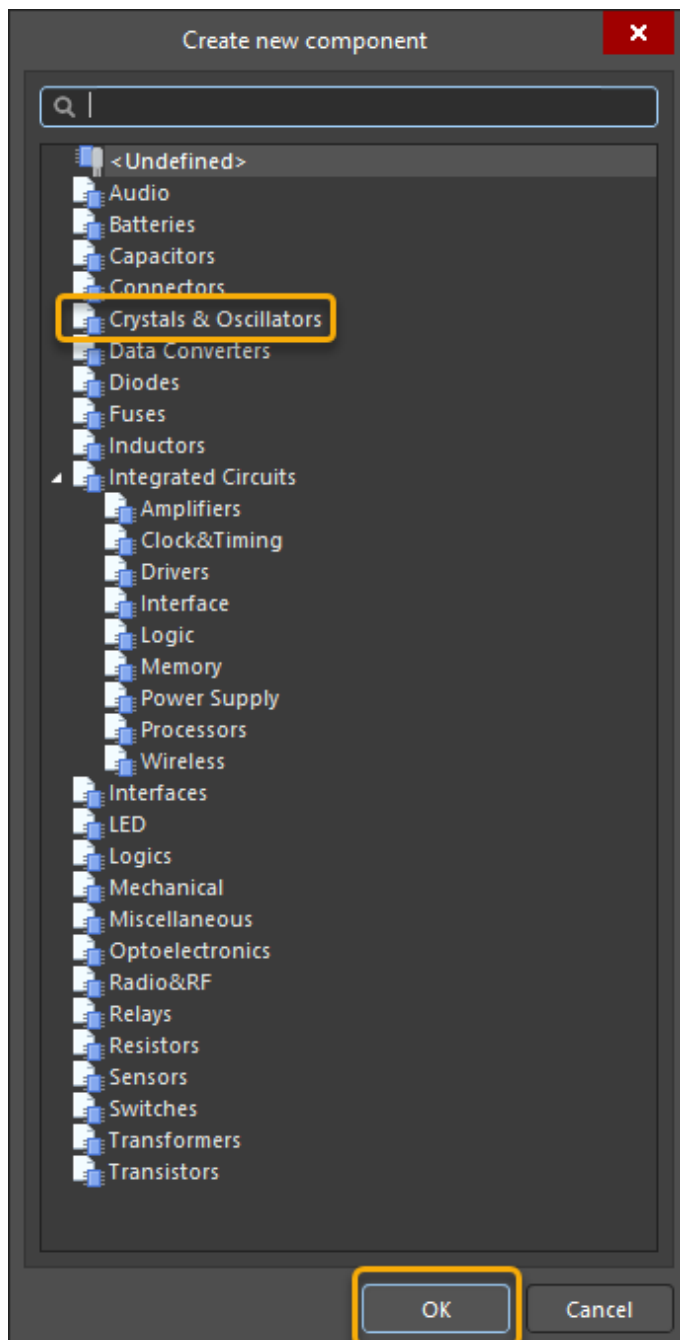

Figure 3. Component Type
4. From the *Create new component* dialog that opens, choose a component type. If there is a component template linked to the selected component type, this template will be used to predefine the component parameters. See Figure 3